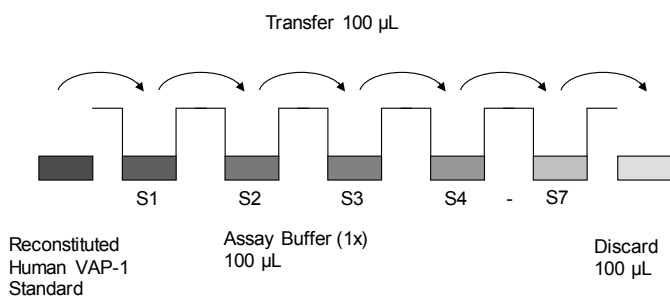

Fig. 7 Dilute standards - microwell plate
- Standard dilution on the microwell plate (Alternatively the standard dilution can be prepared in tubes - see “External standard dilution” on page 3): Add 100 μL of Assay Buffer (1x) in duplicate to all standard wells. Pipette 100 μL of prepared standard (see Preparation of Standard “Human VAP-1 standard” on page 3, concentration = 4000.0 pg/mL) in duplicate into well A1 and A2 (see Table 1). Mix the contents of wells A1 and A2 by repeated aspiration and ejection (concentration of standard 1, S1 = 2000.0 pg/mL), and transfer 100 μL to wells B1 and B2, respectively (see Figure 7). Take care not to scratch the inner surface of the microwells. Continue this procedure 5 times, creating two rows of human VAP-1 standard dilutions ranging from 2000.0 to 31.3 pg/mL. Discard 100 μL of the contents from the last microwells (G1, G2) used.